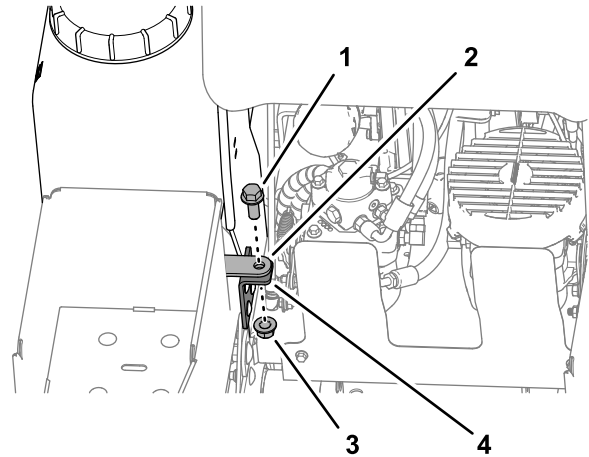

Figure 61
1. At the spray tank that you need to move, remove the flange-head bolt and flange locknut that secures the tank lock plate to the support (Figure 61).